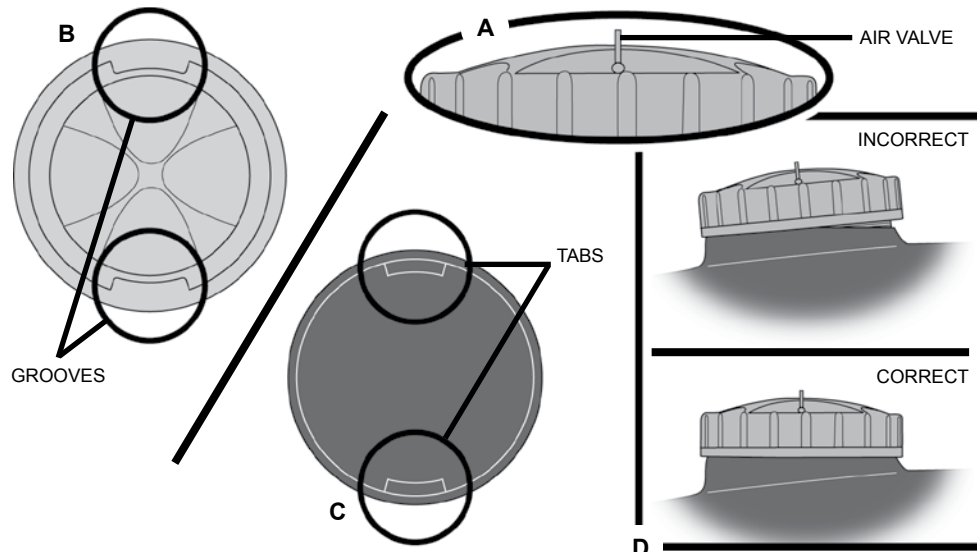

FIGURE 8
NOTE: Do not remove or cut small rubber air valve on top of Water Tank Cap (FIGURE 8-A). Do not turn unit upside-down when Water Tank is full - a small amount of water may leak out.
4. Replace Water Tank Cap so that thread grooves on bottom of Cap (FIGURE 8-B) align with tabs inside Fill Hole (FIGURE 8-C). Press Water Tank Cap down so that it sits flush with top of Fill Hole (FIGURE 8-D). Rotate one quarter turn in clockwise direction (as indicated by "lock" illustration on Cap) to lock it in place.